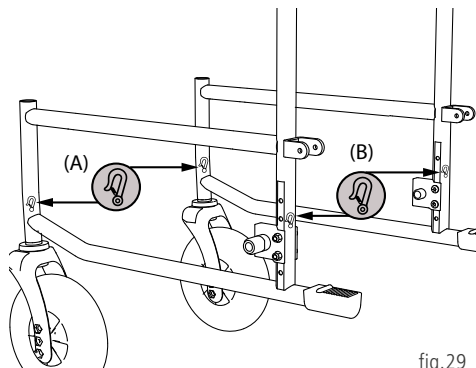

fig.29
To secure the CANEO_S and CANEO_E, only a 4-point wheelchair restraint system with tension belts certified according to ISO 10542, which is designed for the total weight of the wheelchair, is used without a tie-down. The 4 tie down strap attachment points on the wheelchair are marked with a hook symbol (see examples (A) and (B) Fig. 29). When securing the CANEO, the straps must be attached to all 4 attachment points and the wheelchair placed such that the occupant is facing the direction of travel in compliance with ISO 10542 (WTORS). Under no circumstances must the wheelchair be strapped in place using other attachment points (e.g. anti-tip bar, armrests). No modifications must be made to the transport anchor points of the wheelchair without the permission of DIETZ.